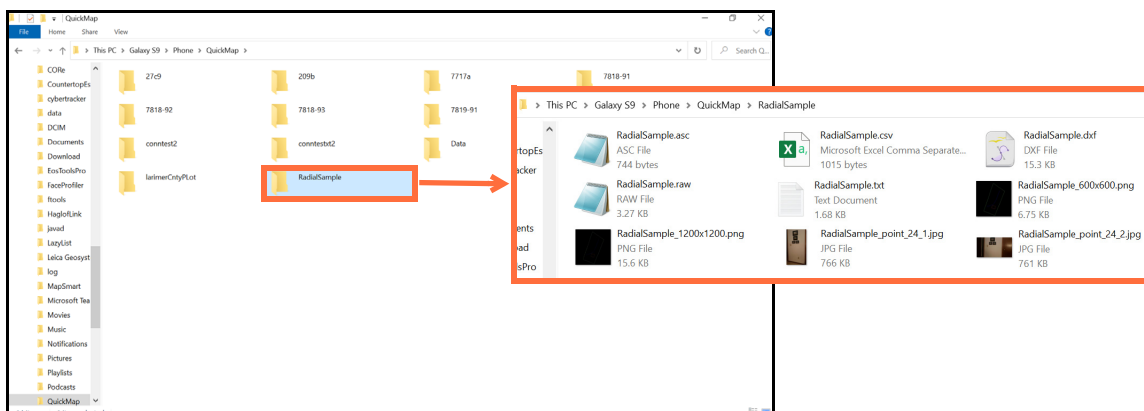

Figure 76
7. Double-click the folder that coincides with the survey name and the saved survey reports will display (Figure 76). Copy any of the individual reports, or copy the entire folder to transfer all the reports for the survey by highlighting them and then right-click/copy with your mouse.